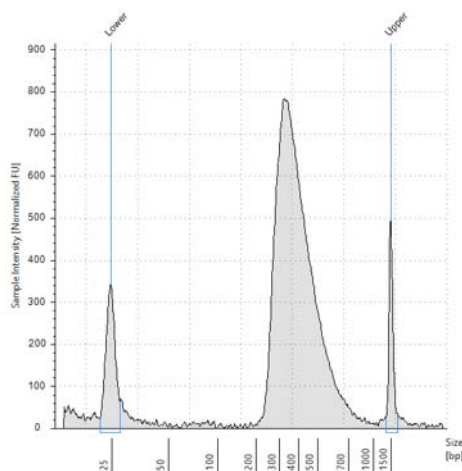
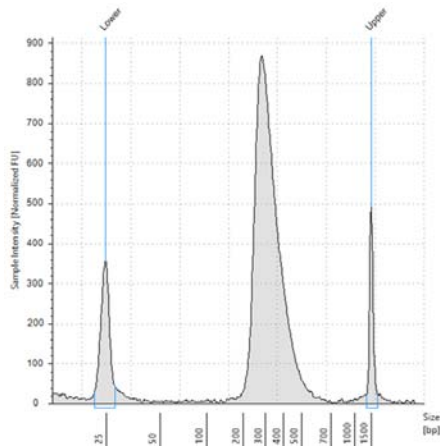

Figure 4 Post-capture library prepared from an intact RNA sample analyzed using a High Sensitivity D1000 ScreenTape assay.
Figure 5 Post-capture library prepared from a typical FFPE RNA sample analyzed using a High Sensitivity D1000 ScreenTape assay.
- 3 Verify that the electropherogram shows the expected DNA fragment size peak position (see Table 38 for guidelines). Sample TapeStation system electropherograms are shown for libraries prepared from high-quality intact RNA in Figure 4 and from FFPE RNA in Figure 5.